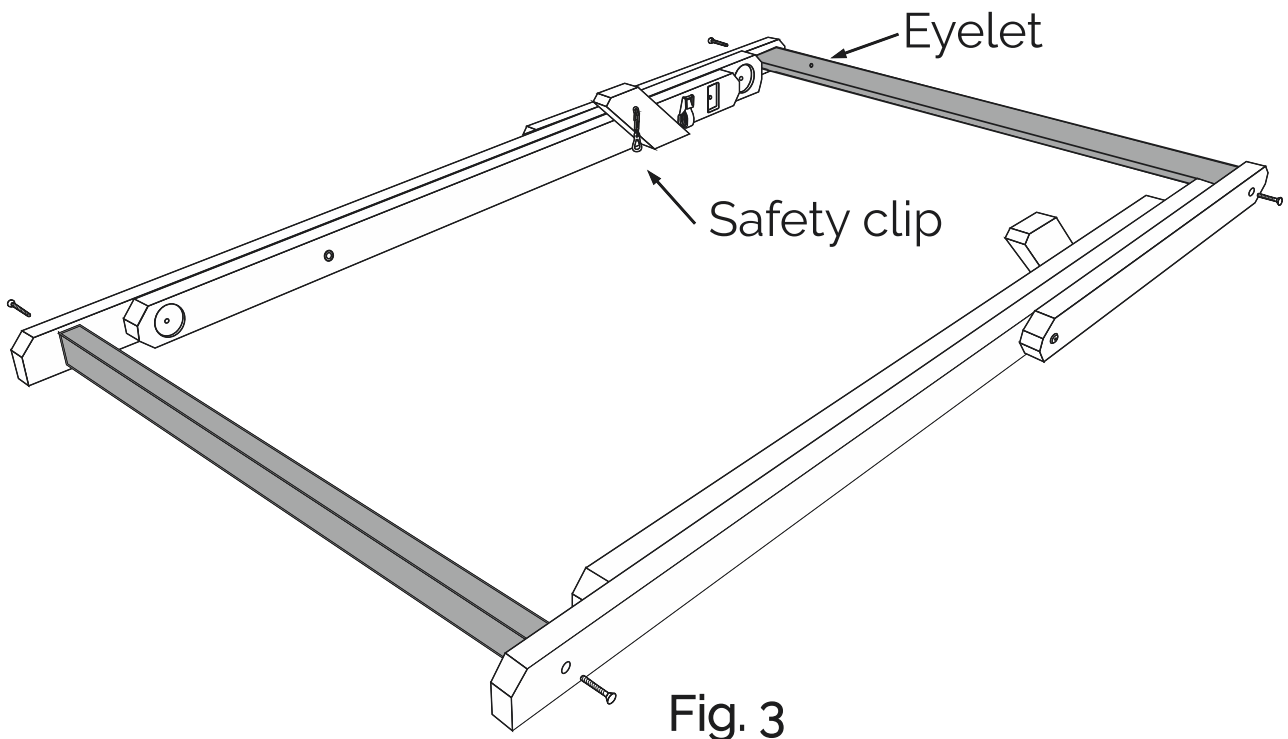

Fig. 3
6. Position **Prop Brace C** so the eyelet is facing upwards and on the same side as the safety clip, see **Fig. 3**. Fit both ends of **Prop Brace C** into the corresponding recesses of the **Props H**. Insert one **K Bolt** through each **Prop H** and tighten.